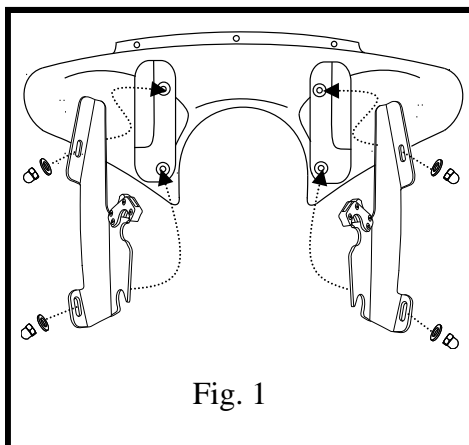

Fig. 1
2. Install the plates onto the fairing using the washers and acorn nuts provided. (Fig 1)